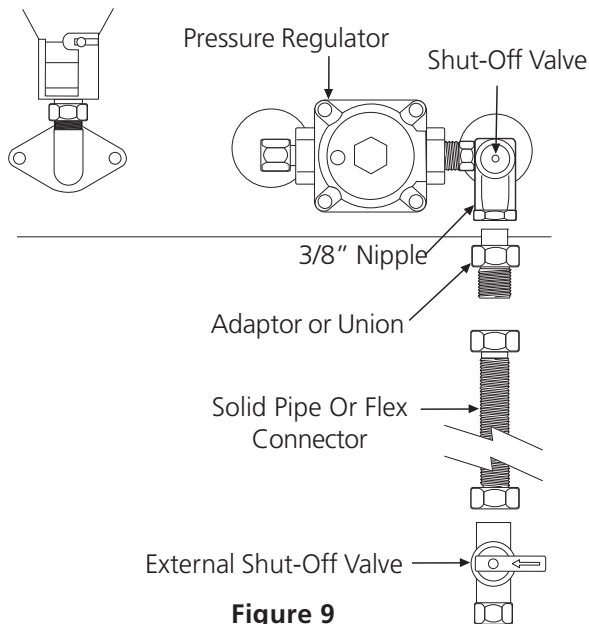

Figure 9
A. Model with 1 ½ oven cavity (see figure 9)